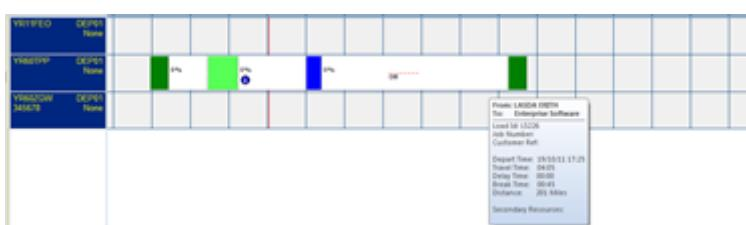

Figure 87
4. Rest the mouse pointer over any part of the load to see details of the activity at that point.(Figure 87)